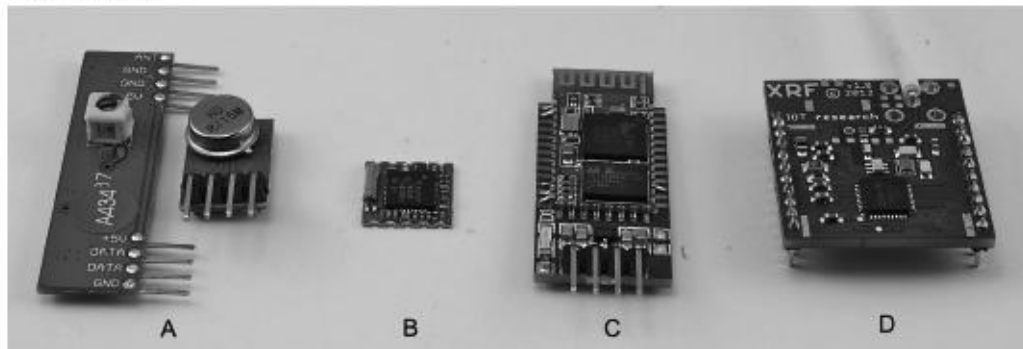

FIGURE 16.1
Radio frequency (RF) electronics is a specialized part of electronics that is a discipline in its own right. At high frequencies, PCB layout becomes critical, and design is not as straightforward as with more typical analog and digital design. For this reason, you will often find ready-to-use RF modules that can either be soldered onto your own PCB as part of a bigger design or plugged into socket headers. Figure 16.1 shows a variety of RF modules: